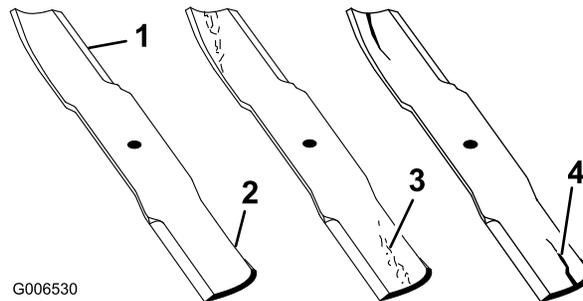

Figure 46
1. Inspect the cutting edges (Figure 46). If the edges are not sharp or have nicks, remove and sharpen the blades. Refer to Sharpening the Blades.
2. Inspect the blades, especially the curved area (Figure 46). If you notice any damage, wear, or a slot forming in this area (item 3 in Figure 46), immediately install a new blade.